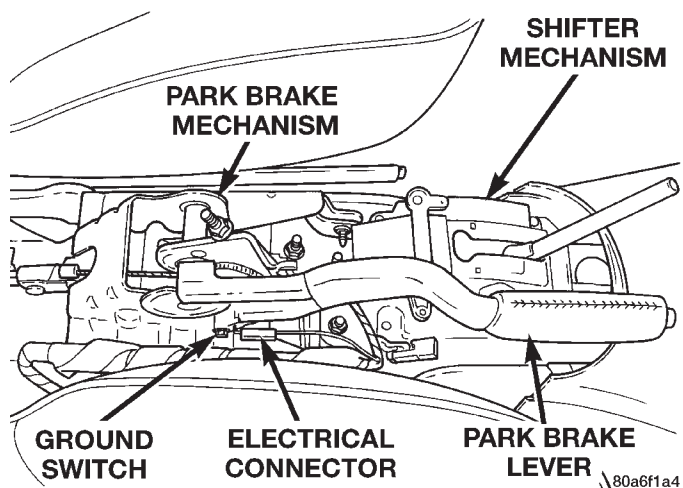

Fig. 128 Wiring Harness Connection To Ground Switch
(10) Remove the park brake cable tension equalizer from the park brake lever output cable.
(11) Remove the electrical connector (Fig. 128) from the ground switch on the park brake lever mechanism
(3) Install the electrical connector on the ground switch of the park brake lever mechanism (Fig. 128).